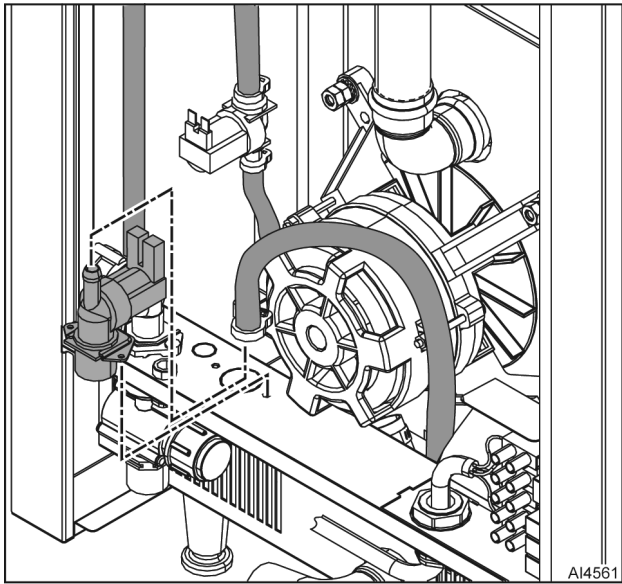

Fig. 53
4. Disconnect facility unfiltered water supply from solenoid valve Yc (Fig. 53).